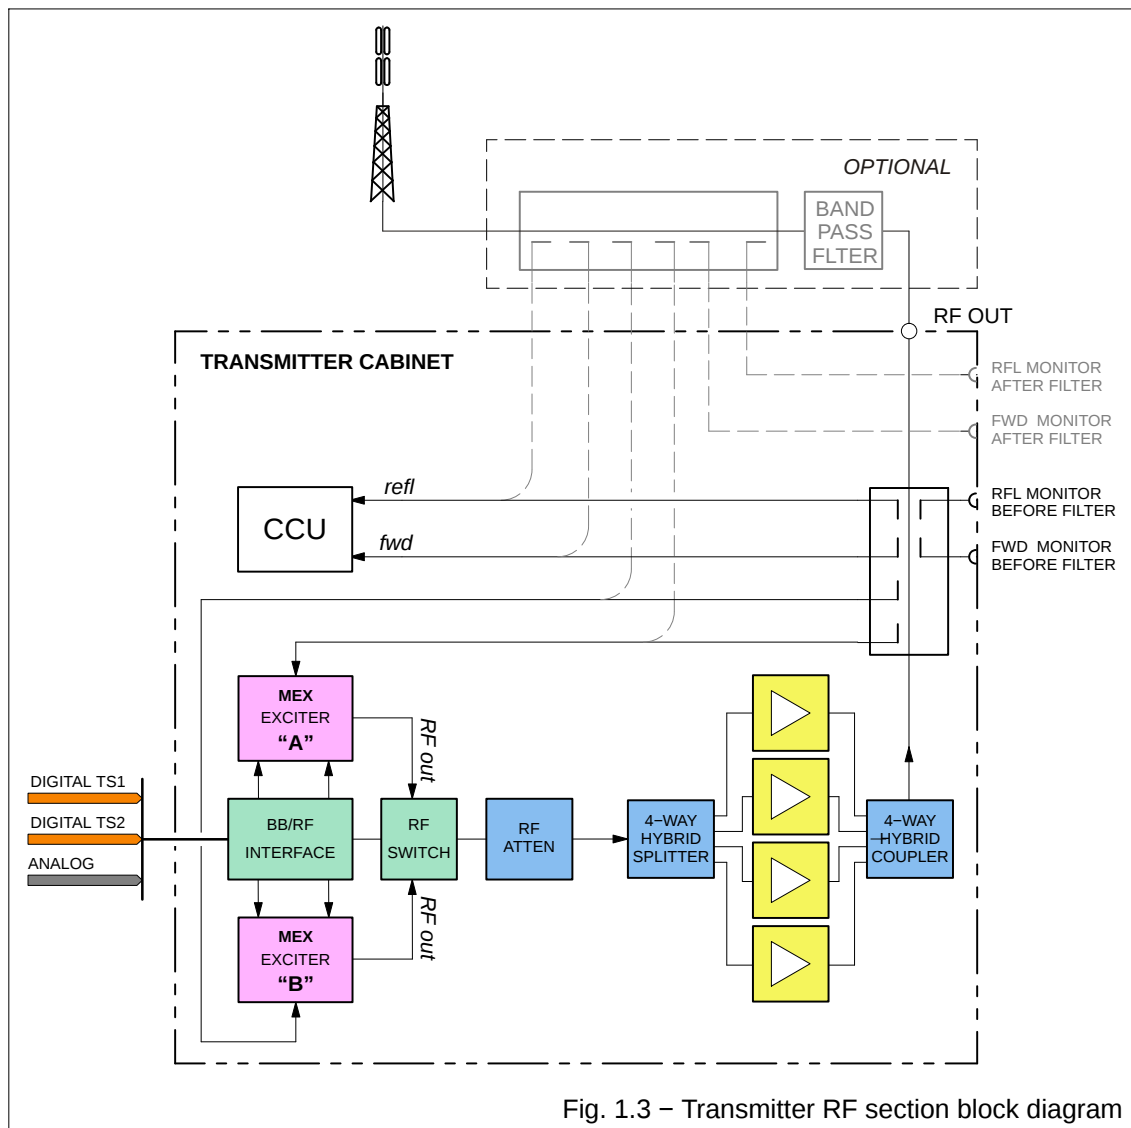

Fig. 1.3 – Transmitter RF section block diagram
| Fig. 1.3 – Transmitter RF section block diagram .....            | 18 |
- Fig. 1.3 block diagram of transmitter RF section;